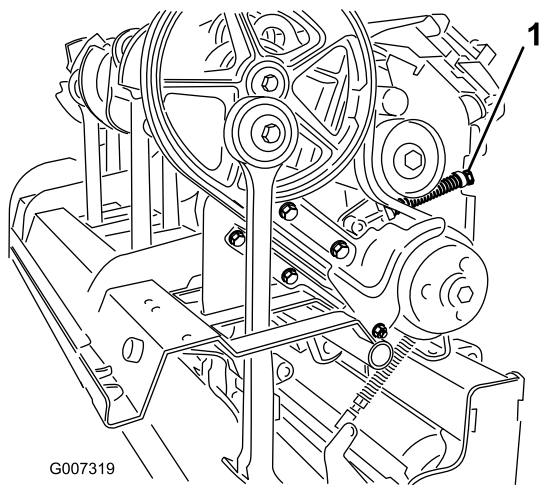

Figure 38
4. To release the idler spring tension, loosen the locknut securing the spring retainer (Figure 38) and rotate the spring retainer.